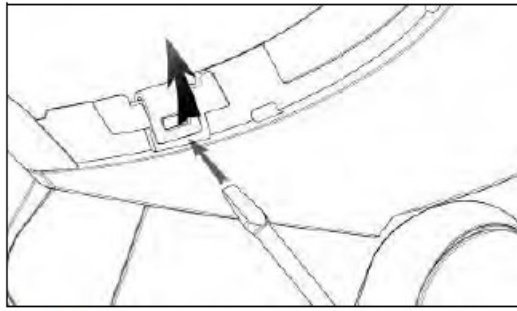

Fig. 28
- Unhook the right clip from the shell, levering upward using a flat head screw (or a similar tool), as shown in Figure 28.